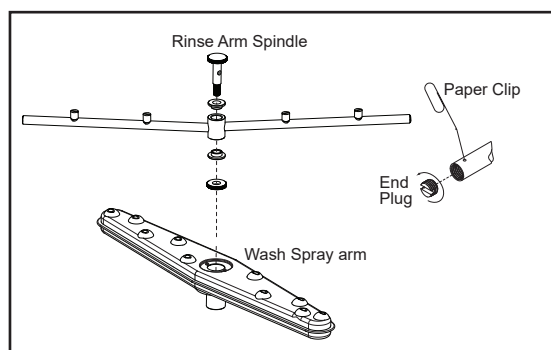

Fig. 49 - Clean end plugs and nozzles
5. Check the rinse spray arm nozzles. If necessary, remove the end plugs and clean the nozzles with a small paper clip (see Fig. 49). Flush the arms clean and replace the end plugs.